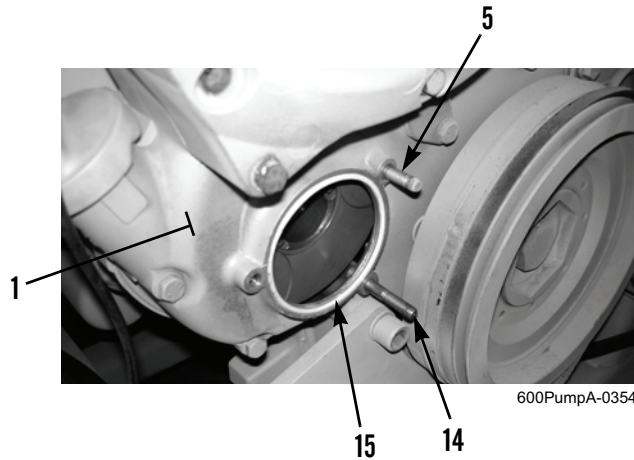

Figure 5. Studs and O-ring at Front Cover.
1. Install new O-ring (Figure 5, Item 15) on engine front cover (Figure 5, Item 1).
2. If removed, install studs (Figure 5, Items 5 and 14) on engine front cover (Figure 5, Item 1).